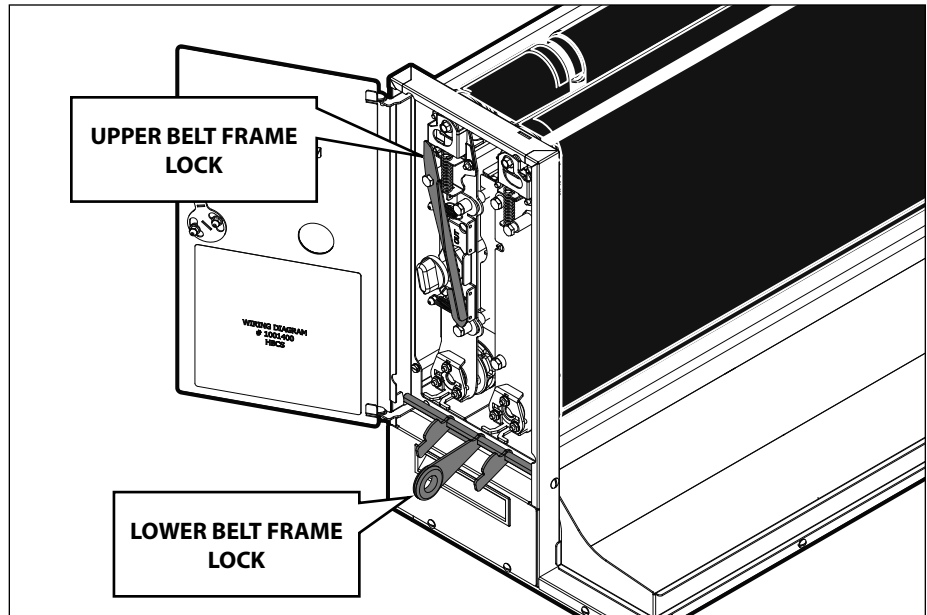

Figure 12. Conveyor Locks
8. Lift the upper Belt Frame Lock. Then rotate down so it rests on the cam shaft of the rear conveyor roller. (Figure 12).
9. Pull down the lower Belt Frame Lock (Figure 12).